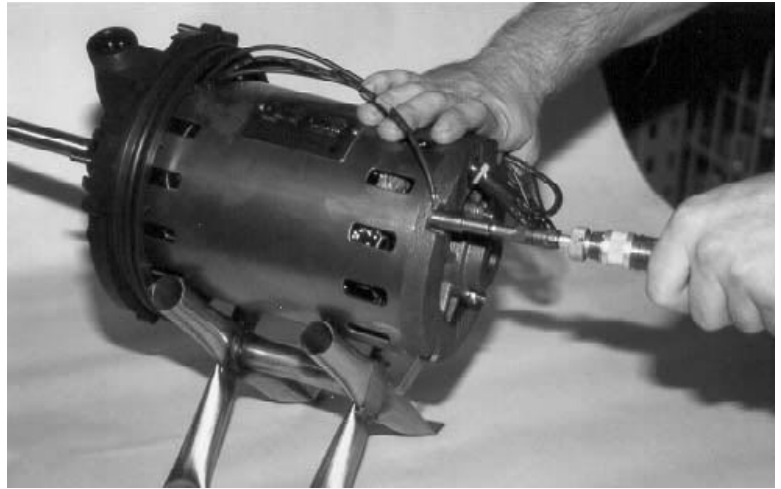

Figure X-6 Remove LM motor mount bolts (4).
2. Remove the 4 motor mount bolts. (Fig X-6)